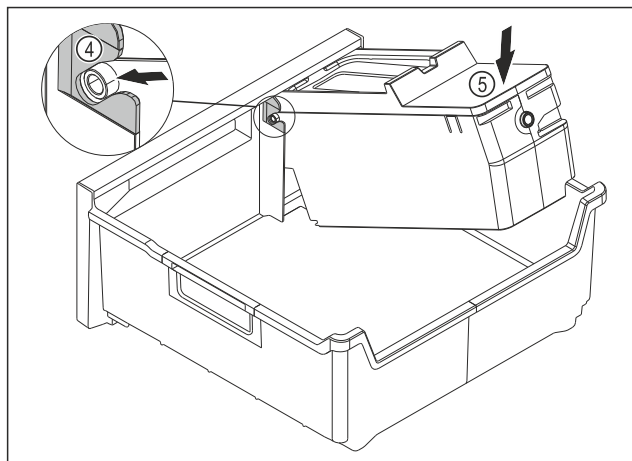

Fig. 148
- Installing the EasyTwist-Ice body: Push the axes for the EasyTwist-Ice body into the guides Fig. 148 (4).
- Press the EasyTwist-Ice body Fig. 148 (5) down at the back.